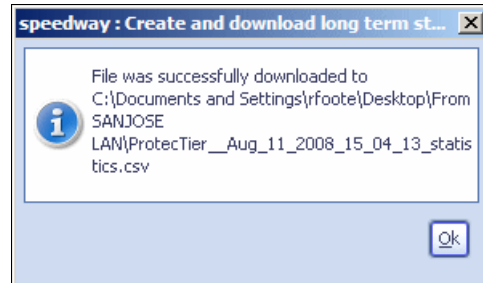

Figure 12-52 Download confirmation message window in ProtecTIER Manager
2. Make your selection and click **Save**. If you do not want to save the report at this time, click **Cancel**. If the report is saved successfully, ProtecTIER Manager displays a message box confirming this action (Figure 12-52).